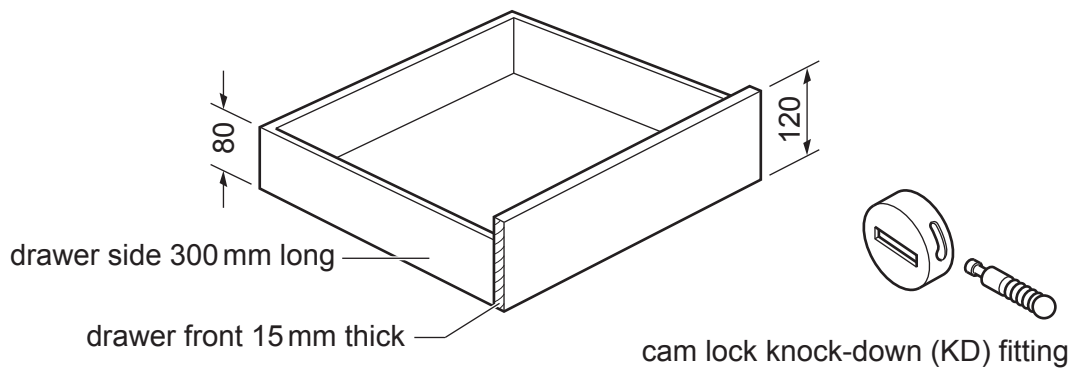

Fig. 11.2
- (e) The drawer front will be joined to the sides of the drawer using cam lock knock-down (KD) fittings. Fig. 11.2 shows details of the drawer and a cam lock fitting.